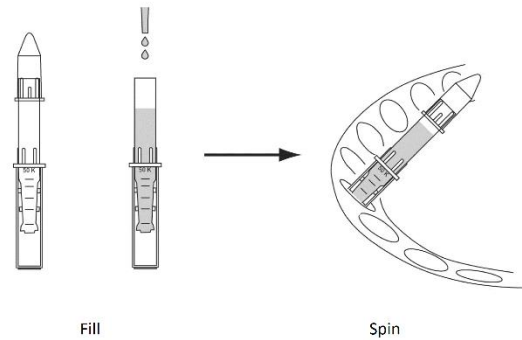

Figure 3. Use of large concentrator
- 3.2 Remove the conical collection tube from the large antibody concentrator as shown in Figure 3.
- 3.5 Add 1.6 ml of 1× TBS and 400 µL of the azide activated antibody from Step 2.3 to the large antibody concentrator (Fig. 3).